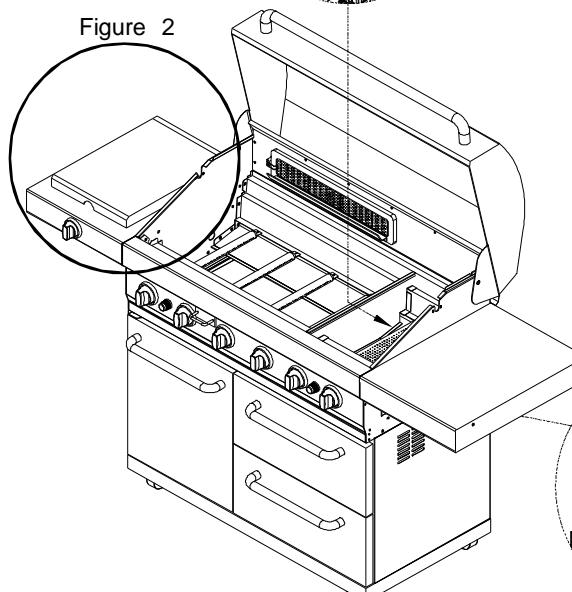

Figure 2
- Repeat for Left Side Burner Frame. (Fig. 2).